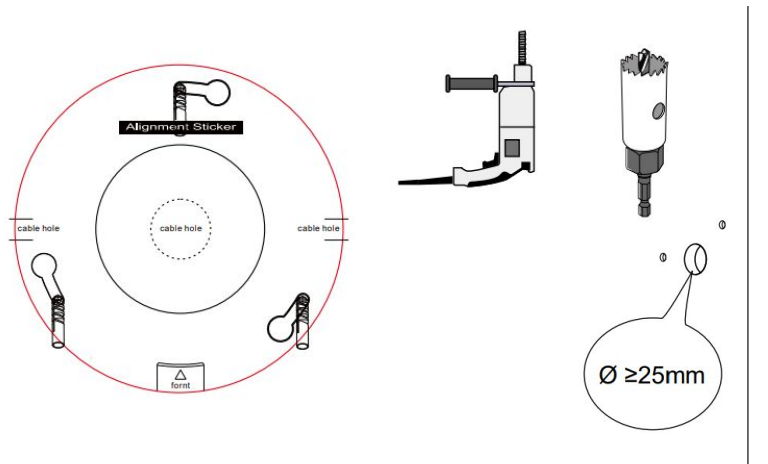

Figure 1-1
Step 1 Use the included position map and drill the appropriate mounting holes and cable exit, if necessary. Keep in mind the orientation of the camera's base plate. See Figure 1-1